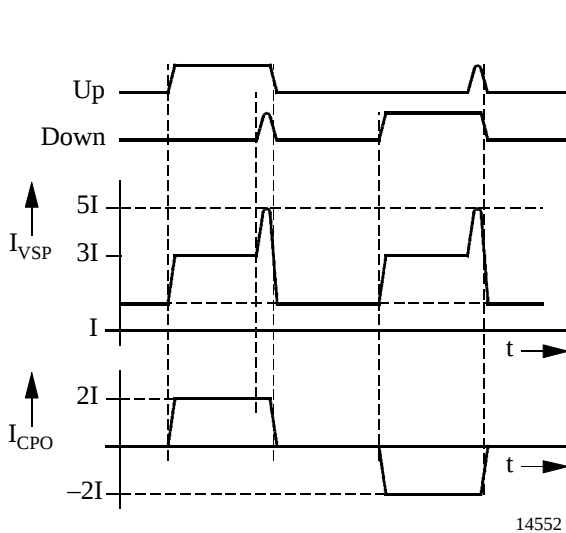

Figure 3. Supply current of the charge pump = $f(t)$
1) Mean value, measured with F_{ND} = 151 MHz, F_{RD} = 150 MHz, current vs. time, figure 3.
Due to the pulsed operation of the charge pump, the current into the charge-pump supply Pin VSP is not constant. Depending on I (see figure 7) and the phase difference at the phase detector inputs, the current I_{VSP} over time varies. Basically, the total current is the sum of the quiescent current, the charge-/discharge current, and – after each phase comparison cycle – a current spike (see figure 3).